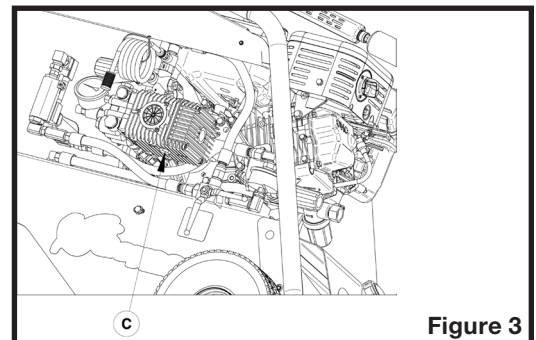

Figure 3
2. Unscrew the oil drain plug (C on figure 3).